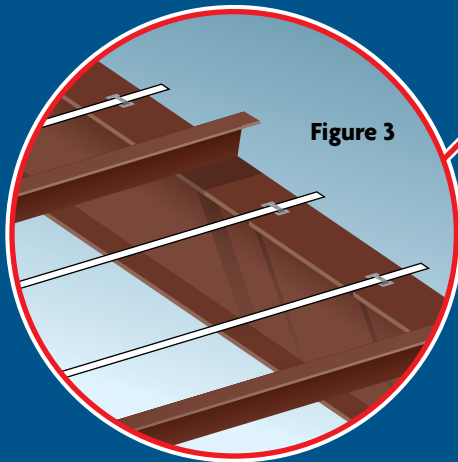

Figure 3
2. Where the bands intersect the endwall rafters, drill the provided 1 ¼" TEK screw down through the clip, then through banding and into the building's endwall rafter (**Figure 3**).